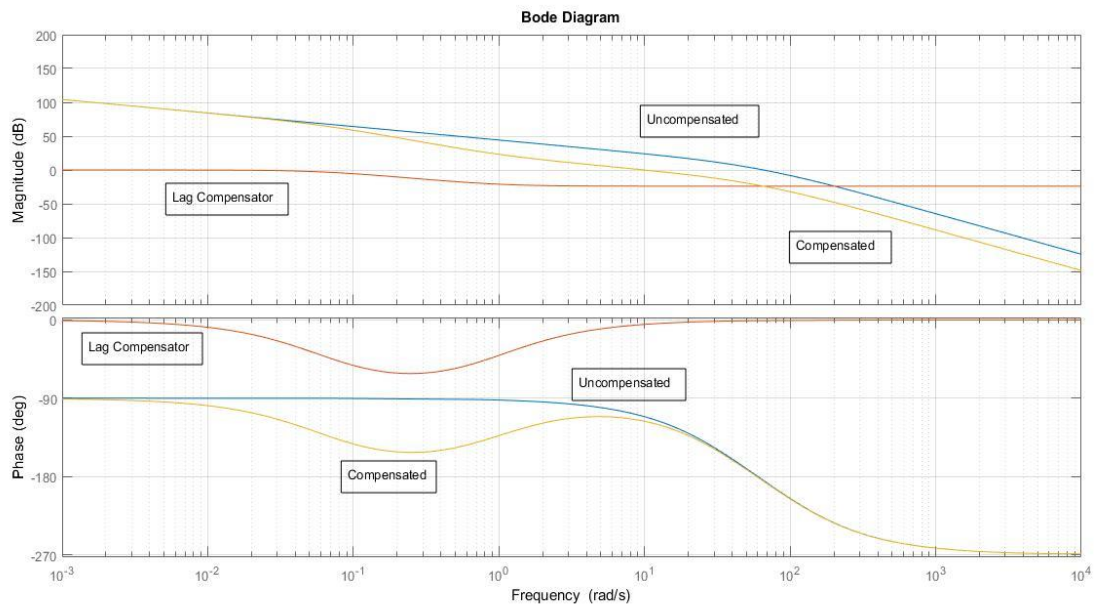

Figure 7: Lag Compensation
frequency gain without any resulting instability, and (2) increase the phase margin of the system to yield the desired transient response. These concepts are illustrated in Figure 7.